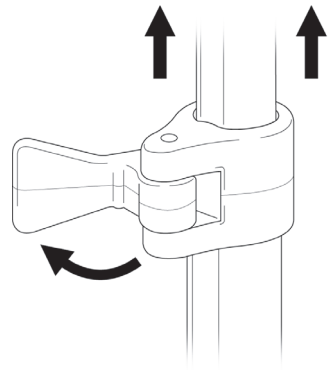

FIGURE 2
1. Release extension lock directly below SECTION 1 by swinging hinge outward as shown. SECTION 1 above it can then be extended / retracted (FIGURE 2).